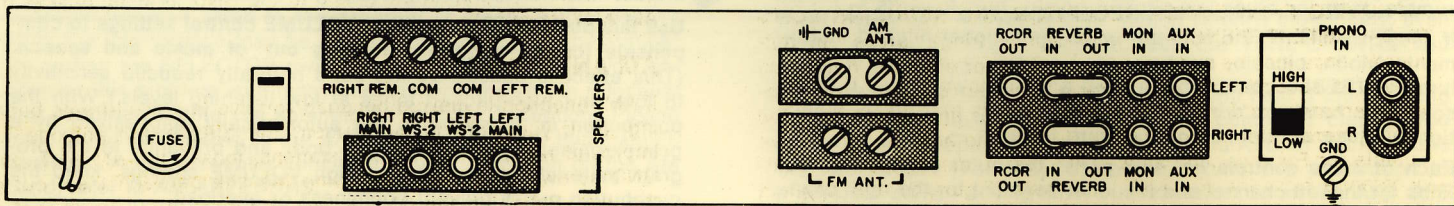

Figure 2. Bottom-Rear View of the Receiver Chassis
(This phenomenon is similar to 'ghosts' in TV pictures and can cause distortion, 'fuzziness', and reduced left-right separation in FM-stereo broadcasts.) In such cases, it may be necessary to replace the built-in antenna with an indoor 'rabbit-ears' or telescoping-dipole antenna that can be rotated for best reception of the desired signal and maximum rejection of the unwanted reflections. (This type of antenna is available at most electronic-parts dealers.) Disconnect the built-in antenna from the FM ANT. terminals (Figure 2) and connect the rabbit-ears antenna in its place, making sure that the antenna lugs or wires do not touch each other, adjacent terminals, or the metal chassis. Tune in several FM stations and turn the antenna for best reception in each case.
**IMPROVING FRINGE-AREA RECEPTION AND REDUCING ELECTRICAL INTERFERENCE**—In weak-signal 'fringe' areas, an outdoor antenna may be necessary, especially for effective, noise-free FM-stereo reception. If you already have an outdoor VHF television antenna, and most FM signals in your area come from the same general direction as the TV signals, the antenna may prove suitable for FM reception as well. To test it, disconnect the built-in antenna from the FM ANT. terminals (Figure 2) and connect the TV antenna in its place, making sure that the antenna lugs or wires do not touch each other, adjacent terminals, or the metal chassis. If the results are satisfactory, obtain a two-set antenna coupler so that you can operate both the TV set and the console from the antenna simultaneously.
If AM reception is marred because you live in a steel-frame building, or if you want to supplement the built-in AM antenna for improved reception of weaker stations, loosen the AM ANT. and GND screws (Figure 2) and swing the link between them out of the way. Retighten the GND screw and connect 10 to 20 feet of insulated, flexible, single-conductor wire to the AM ANT. terminal. Keep this wire away from all speaker, audio, and power cables. Run the wire in a straight line along a *non-metallic* baseboard or under a rug. In some cases, reception may be further improved by draping the wire out a window or by connecting it to an outdoor whip or rod antenna.
- (1) Turn off the console and disconnect its power cord from the electrical outlet.
- (2) Place the speakers to the right and left of the console as described in the WS-2 Operating Instructions.
- (3) Connect the speakers to the WS-2 jacks at the bottom-rear of the console (Figure 2). Make sure that the speaker at the left of your *listening* position goes to the LEFT jack while the speaker
The REM. and adjacent COM terminals at the bottom-rear of the console (Figure 2) provide convenient means for connecting a pair of remote extension speakers. This arrangement will enable you to enjoy stereo sound in another room of your home when you press in the REMOTE SPKRS pushbutton.
mono or stereo program source through its AUX IN jacks (Figure 2). Moreover, if the extra source normally plays through its own low-fidelity speakers and amplifiers, playing it through the console instead will improve its sound quality noticeably.
- (1) Install the SPACEEXPANDER in a suitable location as described in its Instruction Manual.
- (2) Remove the jumper wires that connect the REVERB IN and OUT jacks in each channel of the console (Figure 2), but keep them for future use in case you decide to disconnect the SPACEEXPANDER. ***Either these wires or the SPACEEXPANDER must be connected to the IN and OUT jacks; otherwise, all program sources played through the console will be silenced.***
- (3) Connect *one* of the SPACEEXPANDER's channel A INPUTS to the console's left-channel REVERB IN jack.
- (4) Connect *one* of the SPACEEXPANDER's channel B INPUTS to the console's right-channel REVERB IN jack.
- (5) Connect the SPACEEXPANDER's channel A OUTPUT to the console's left-channel REVERB OUT jack.
- (6) Connect the SPACEEXPANDER's channel B or C OUTPUT to the console's right-channel REVERB OUT jack.
(7) Operate the SPACEEXPANDER as described in its Instruction Manual; adjust all console controls in the usual manner to suit your personal tastes and listening conditions.
- (2) The power fuse is in the black receptacle marked FUSE at the bottom-rear of the console (Figure 2). Turn the fuseholder cap to the left (in the direction of the arrow on the cap) until it disengages from the receptacle and remove the fuse from the cap.
- (3) The spare fuse supplied with the console has a short spiral coil of wire inside its glass envelope (identifying it as a slow-blow type). One of its metal ends is marked **2.5A**. Use only this fuse (or an exact commercial equivalent) as a replacement.
- (4) Insert the replacement fuse in the fuse cap. Push the cap into the receptacle and turn it to the right (against the direction of the arrow) until it is firmly in place. Connect the power cord to the electrical outlet and turn on the console.